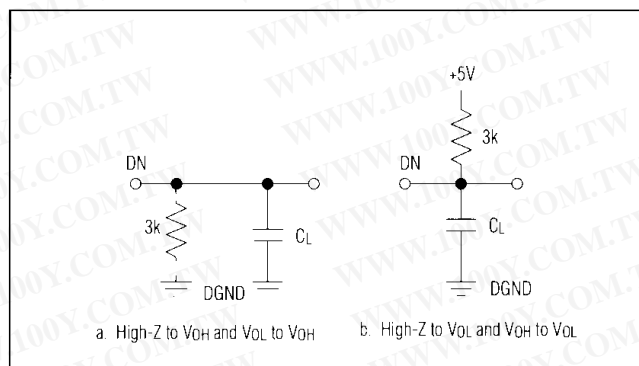

Figure 1. Load Circuits for Access Time
**Note 15:** t3 and t6 are measured with the load circuits of Figure 1 and defined as the time required for an output to cross 0.8V or 2.4V.